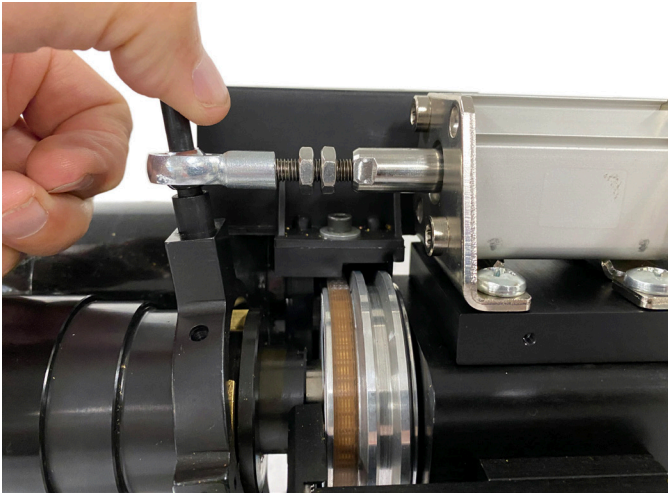

FIGURE 28
- ii. Then pull it back to the “collet closed positions” with the air cylinder piston fully extended (see Figure 28).